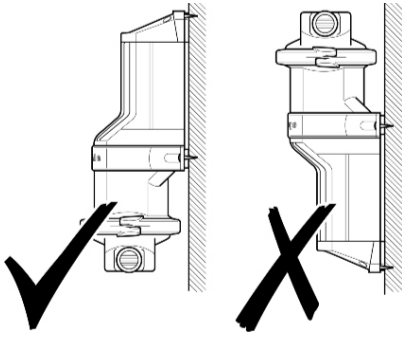

Fig. 1 Pump Orientation
2. The pump can be mounted horizontally or vertically. If mounted vertically, ensure that the pump head is below the electric motor casing and not above (Fig 1).